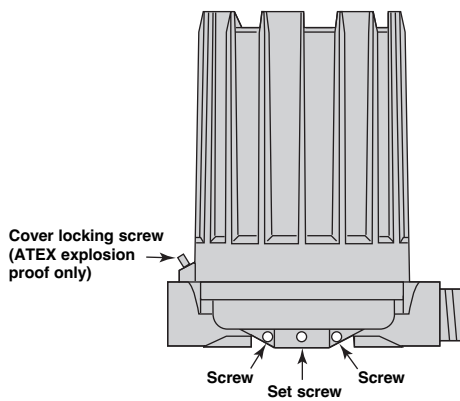
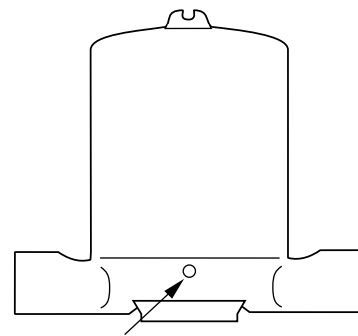

Figure 3
Figure 4
1. Loosen set screw(s) at base of switch housing. Refer to Figure 3.
CAUTION: DO NOT attempt to unscrew cover of ATEX explosion proof housings before loosening locking screw in cover (Figure 3 - ATEX cast aluminium) or base (Figure 4 - ATEX cast iron) of housing. ALWAYS retighten locking screw after replacing cover.